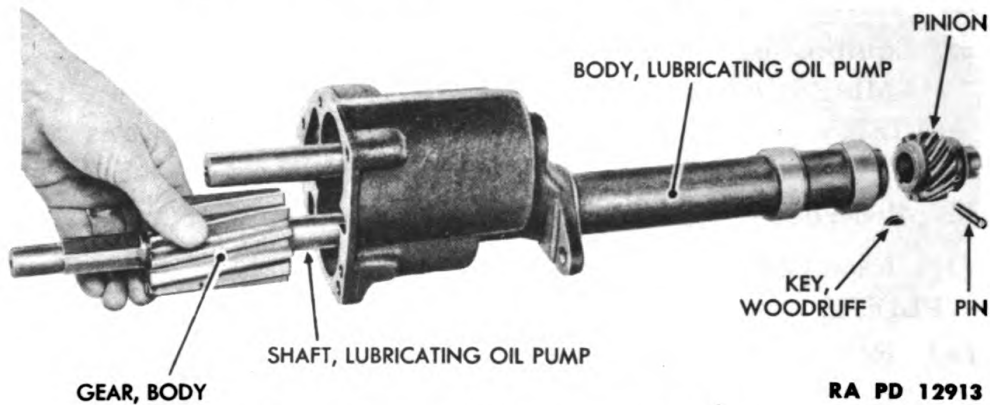

Figure 100—Lubricating Oil Pump Shaft Removal
(9) REMOVE SHAFT WITH BODY GEAR (fig. 100).